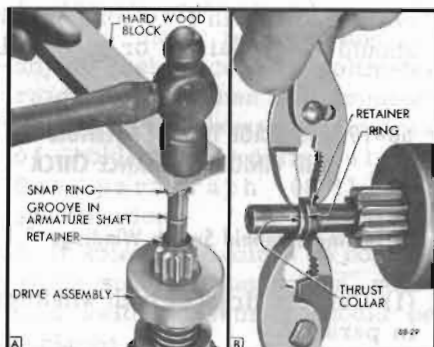

Figure 68-27—Pinion Stop Retainer and Snap Ring Installation
5. Place a new snap ring on drive end of shaft and hold it in place with a hard wood block. Strike block with hammer to force snap ring over end of shaft, then slide the ring down into groove in shaft. See Figure 68-27, View A.
and move the retainer into contact with ring. Using pliers on opposite sides of shaft squeeze retainer and thrust collar together until snap ring is forced into the retainer. See Figure 68-27, View B.